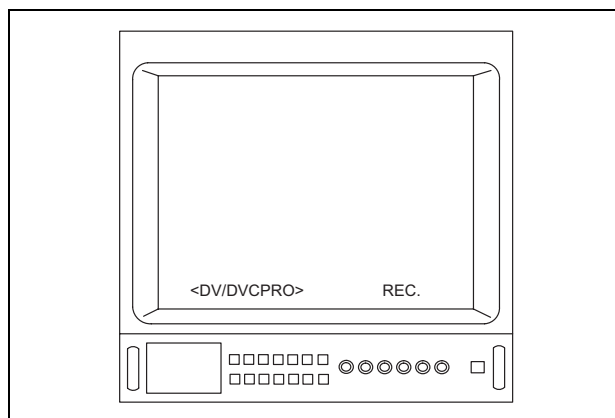

Figure 5.92
2. To begin recording, press the remote control switch on the camera head or videoscope. The menu shown in Figure 5.92 is displayed.
2. To begin recording, press the "F5" key. The menu shown in Figure 5.92 is displayed.